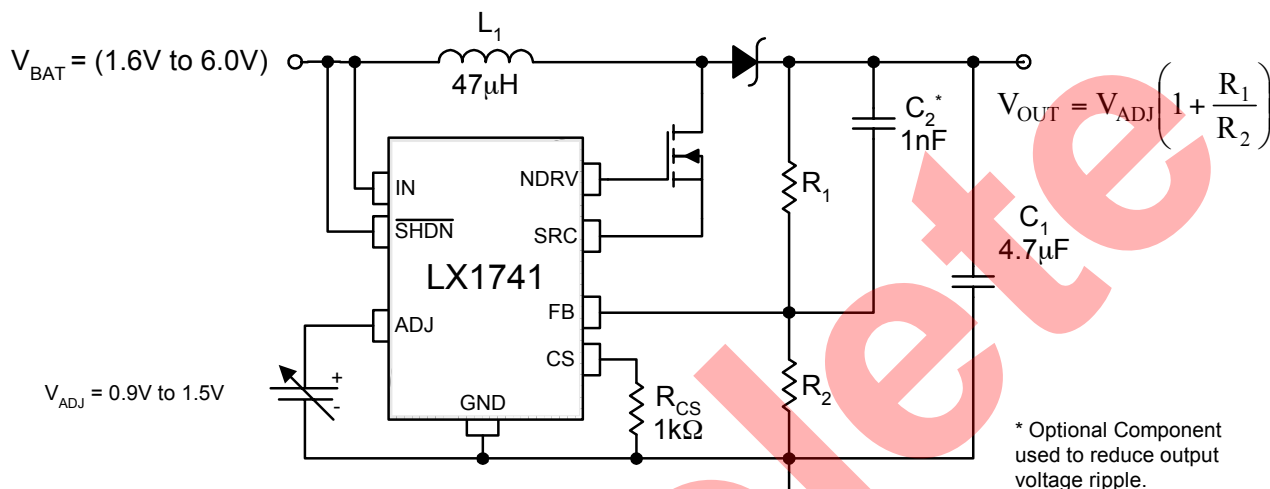

Figure 3 – Dynamic Output Voltage Operation Via Analog Voltage Input
1. When using a DC source to adjust  $V_{\text{OUT}}$ , the recommended  $V_{\text{ADJ}}$  (range) is from 0.9V to 1.50V: see figure 3 and 8.